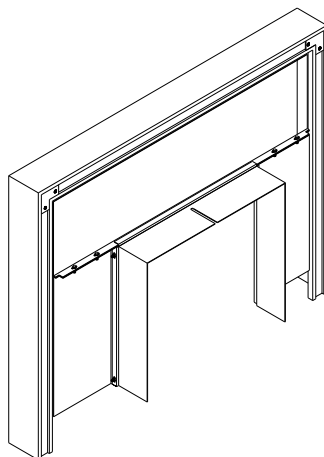

Figure 7
D. Line up the holes by pushing the sides out and install (smooth heads inside) all the bolts loosely. Line up the edge of the faceplate top and side, tighten the two bolts joining them, and then tighten the side bolts. Tighten the bolts on the other side in the same manner (see Figure 7).